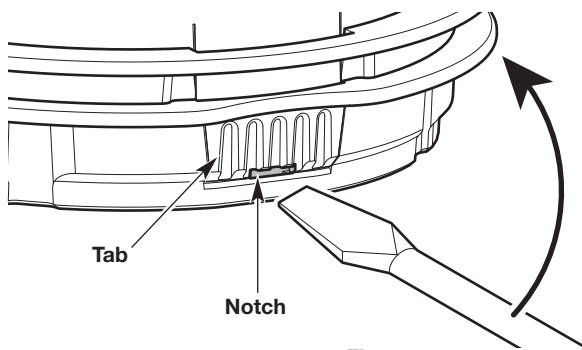

Fig. 7
- a. Insert a flat-head screwdriver into the notch on the tab (Fig. 7).
- b. Gently tilt the screwdriver up and hold it in place (Fig. 7).